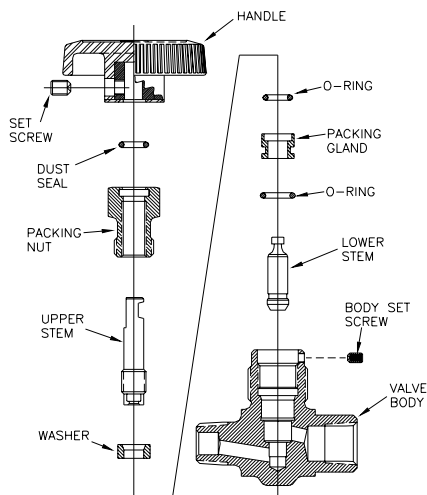

Figure 3: NP6 Needle Valve
- B) **O-Ring Stem Packing** (optional): Apply a small amount of lubricant, as consistent with the valve's service requirements, to the Stem O-Rings. Refer to Figure 3. Place the Large O-ring in the external groove of the Packing Gland. Place the Small O-ring into the recess of the O-ring Gland. Position the assembled O-ring Gland over the Lower Stem. Place the Washer on the Lower Stem, assuring the internal tapered end is facing up. Then proceed to step 7.